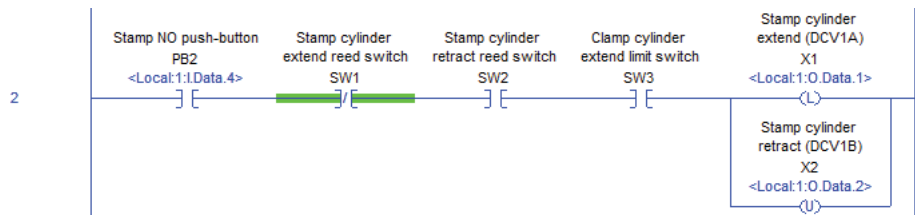

Figure 108. Rung 2 (stamp extend).
19. Enter the logic for this rung according to Figure 108. You will need latch (L) and unlatch (U) instructions. X1 will latch and X2 will unlatch if **all** of these four conditions exist simultaneously: